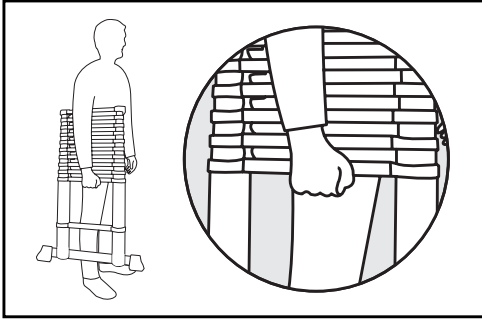

Figure 1
- 1.2 **ALWAYS** transport the ladder fully closed and hand carry under arm gripping the underside of the ladder lock release housing on the underside of rung 2 (see figure 1).
- 4.2 Transport the ladder fully closed and hand carry under arm. With one hand hold the underside of the ladder lock release housing on the underside of rung 2 (see figure 1), support / carry the product with your arm straight and steady the ladder with your other hand.